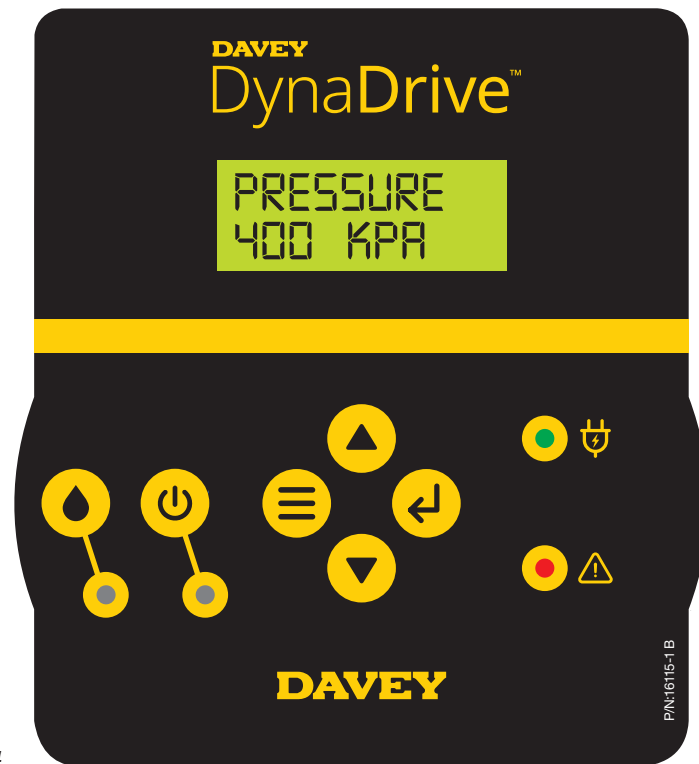

Figure 7.4
- Once the motor has slowed to a stop, press and hold the ≡ **Menu button** and ↵ **Enter button** for ~ 5 seconds. The display will change to show your current set pressure, see figure 7.4;